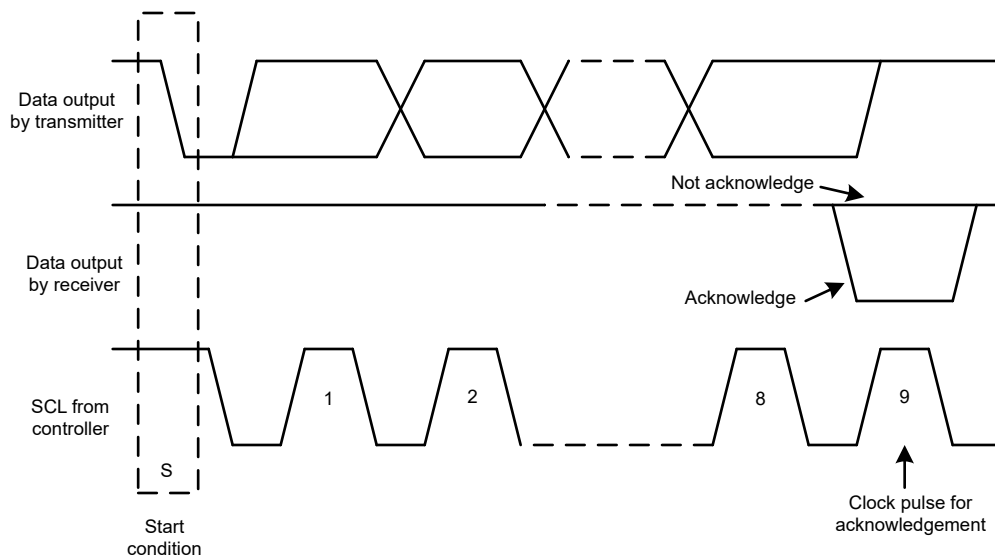
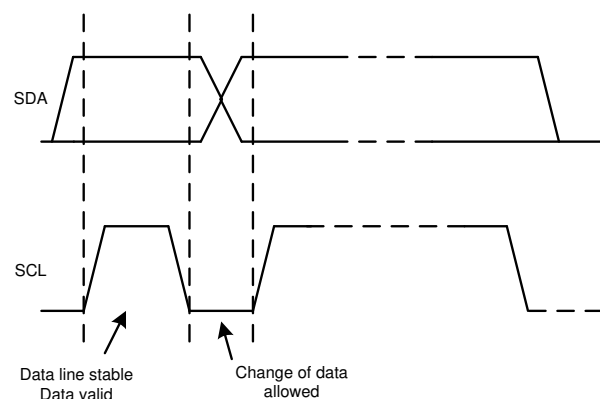

Figure 7-18. Acknowledge and Not Acknowledge on the I²C Bus
Figure 7-20. Bit Transfer on the I²C Bus
Other than specific timing signals, the I²C interface works with serial bytes. At the end of each byte, a ninth clock cycle generates and detects an acknowledge signal. An acknowledge is when the SDA line is pulled low during the high period of the ninth clock cycle. A not-acknowledge is when the SDA line is left high during the high period of the ninth clock cycle, as shown in Figure 7-18.
2. The controller then generates the SCL pulses, and transmits the 7-bit address and the read/write direction bit (R/\overline{W}) on the SDA line. During all transmissions, the controller makes sure that data are valid. A valid data condition requires the SDA line to be stable during the entire high period of the clock pulse, as shown in Figure 7-20. All devices recognize the address sent by the controller and compare the address to the respective internal fixed address. Only the target device with a matching address generates an acknowledge by pulling the SDA line low during the entire high period of the 9th SCL cycle, as shown in Figure 7-18. When the controller detects this acknowledge, the communication link with a target has been established.